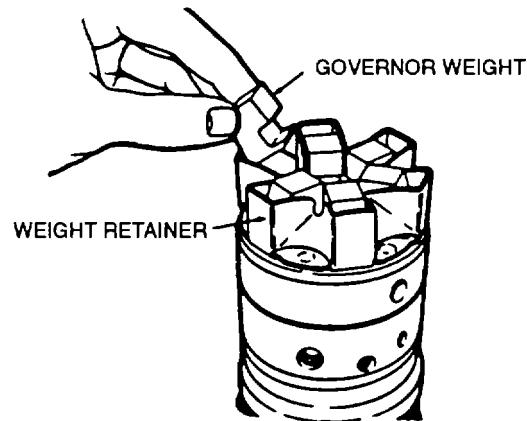

FIGURE 3-95. Installing Weights
- al. Install six weights (18, FIGURE 3-73) into weight retainer (33), refer to FIGURE 3-95.